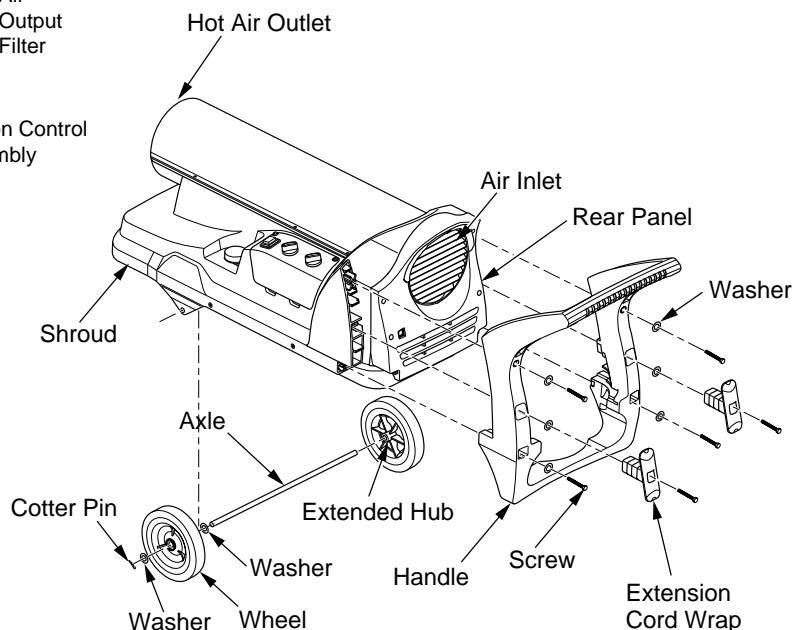

Figure 4 - Wheel and Handle Assembly
1. Slide axle through shroud. Install washers and wheels on axle as shown in Figure 4.
IMPORTANT: When installing wheels, point extended hub of wheels toward shroud (see Figure 4).